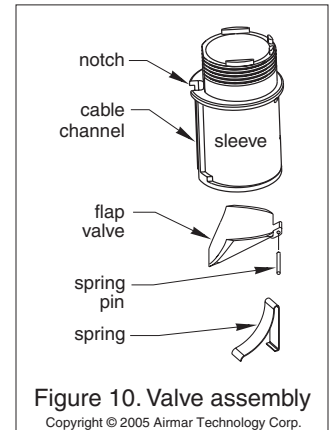

Figure 10. Valve assembly
4. Clean, repair, or replace the valve assembly so the flap valve moves freely and seats against the sleeve (see Figure 10).
7. Remove the safety wire from the multisensor. With the combined valve assembly and paddlewheel insert ready in one hand, remove the blanking plug. Slide the assembly into the multisensor housing *with the arrow on the top pointing forward toward the bow*. Be sure the cable fits into the cable channel and the notch in the sleeve fits into the key in the housing (see Figure 10). (A pushing twisting motion will locate the key.) Screw the *cap* nut in place and **HAND-TIGHTEN** only. *Do not* over tighten.